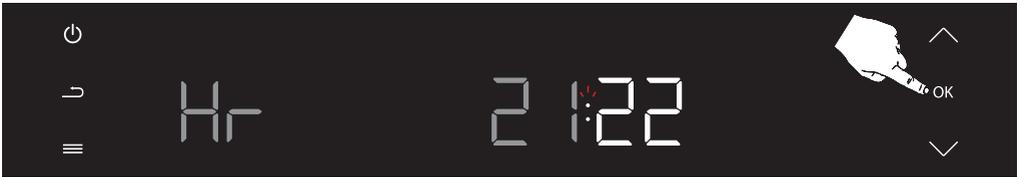

Figure 91
Press the Confirm button (OK) once to confirm the selected time. (see figure 91)